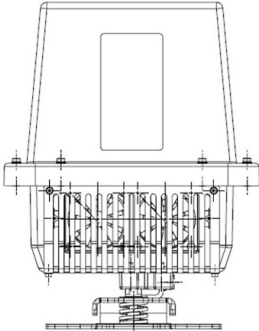
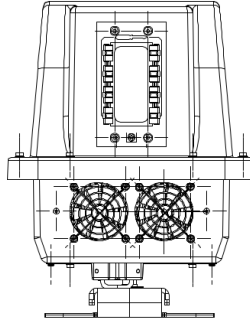

Figure 1: TPCC/DM Front
Figure 5: TPCC Back - All Models
**Warning** - During transport, the glass panel of the TPCC/DM, TPCC/CLV and TPCC/LMS models is protected by a cover. This cover must be removed prior to installing the TPCC Professional System. The TPCC/T/DM version does not require a separate protective cover as the housing design provides adequate protection for the glass panel during transport. The air supply holes shown in Figure 5 and the air vent holes shown in Figures 1, 2 and 4 must be kept clean and free of obstructions at all times during operation.